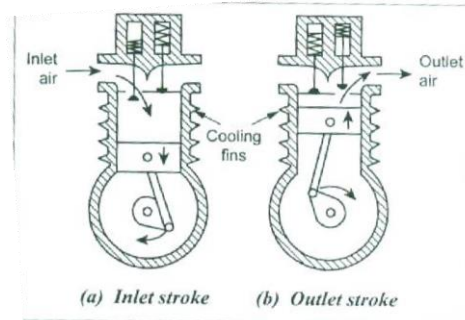

Fig.4.3. single cylinder compressor
- **Single stage compressor:** The compression of the air from the initial pressure to the final pressure is carried out in one cylinder only as shown in fig.4.3